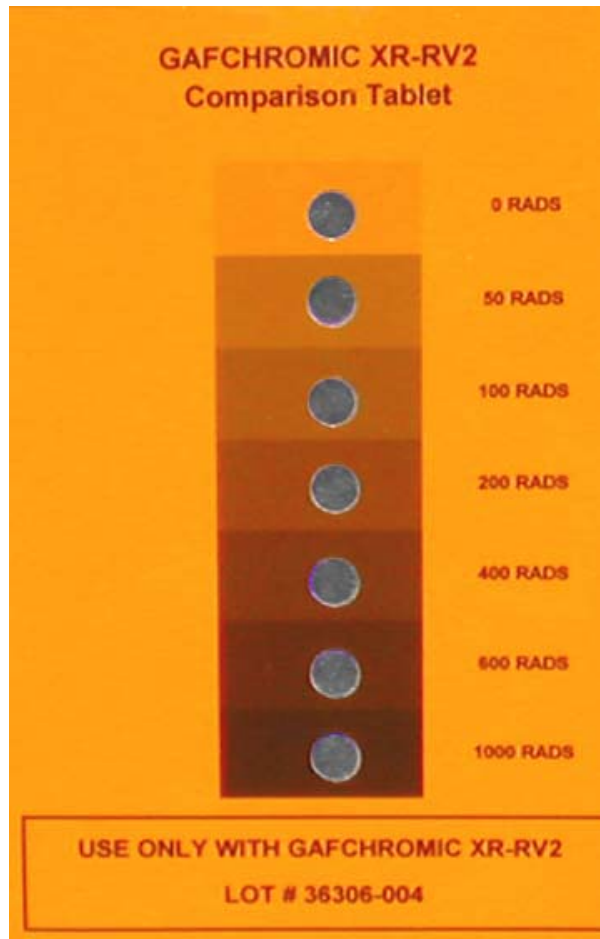

Figure 2: Comparator strip
- 2) A comparator strip for the lot number of the film to be evaluated (See figure 2)